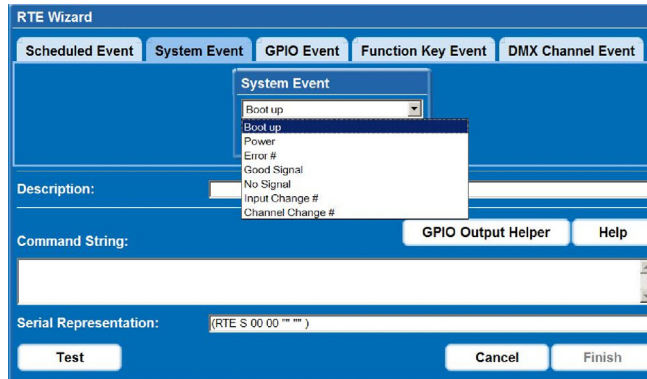

FIGURE 4-18 ADD SYSTEM EVENT
- Select a type of event from the **System Event** drop-down list. **NOTE:** *Depending on the selection made, additional selections are made available in the second drop-down list located underneath (i.e. Input Change > Input 1, Slot 1). See Figure 4-18 Add System Event.*